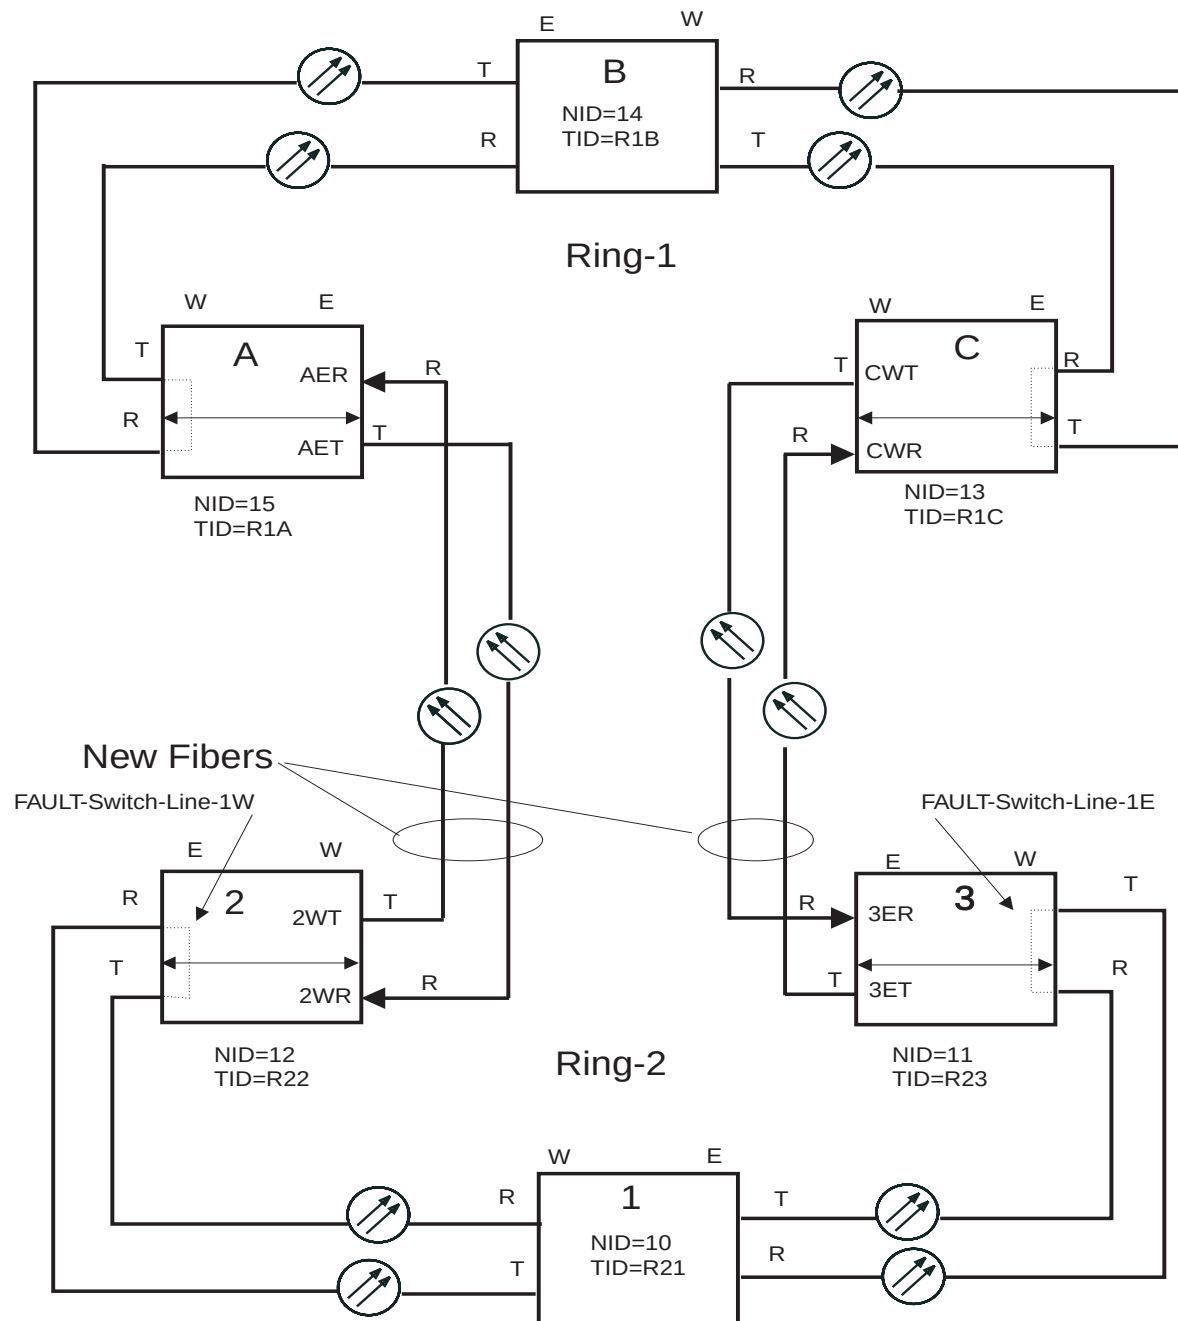

Figure 5 – Example Depicting Ring With New Fibers Connected
22. Instruct the installation/maintenance personnel, at node 2, to connect the new West transmit fiber (point 2WT). Refer to the example in Figure 5.	—
24. Instruct the installation/maintenance personnel, at node A, to connect the new East transmit fiber (point AET). Refer to the example in Figure 5.	—
26. Instruct the installation/maintenance personnel, at node 3, to connect the new East transmit fiber (point 3ET). Refer to the example in Figure 5.	—